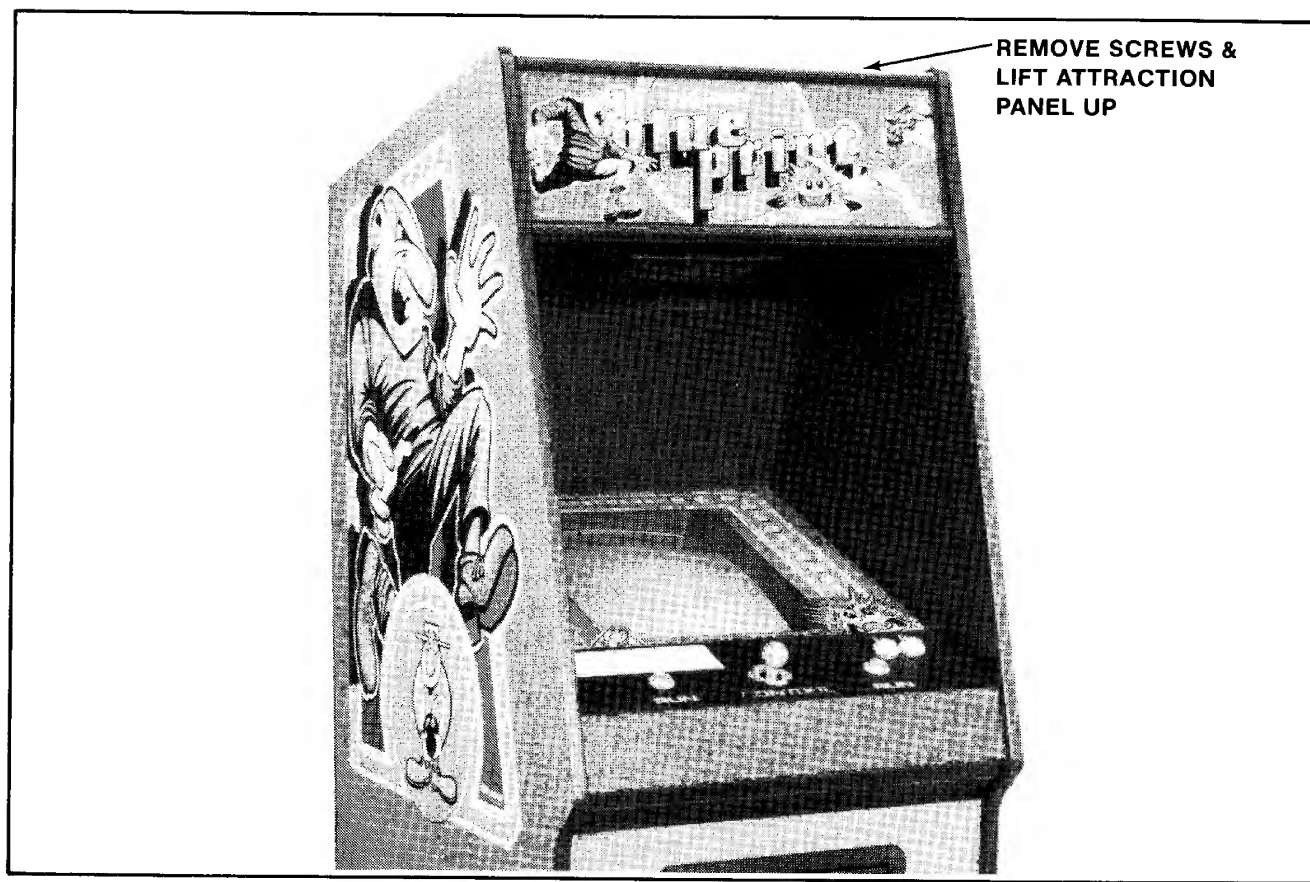

Figure 4-15 Opening the Attraction Panel — Upright
1. **UPRIGHT MODEL:** See Figure 4-15.